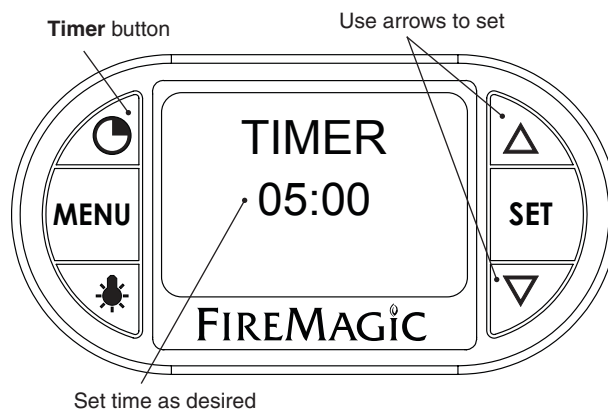

Fig. 30-4 Timer screen
1. Press the timer button. Use the arrows to set the desired amount of time (see Fig. 30-4.)